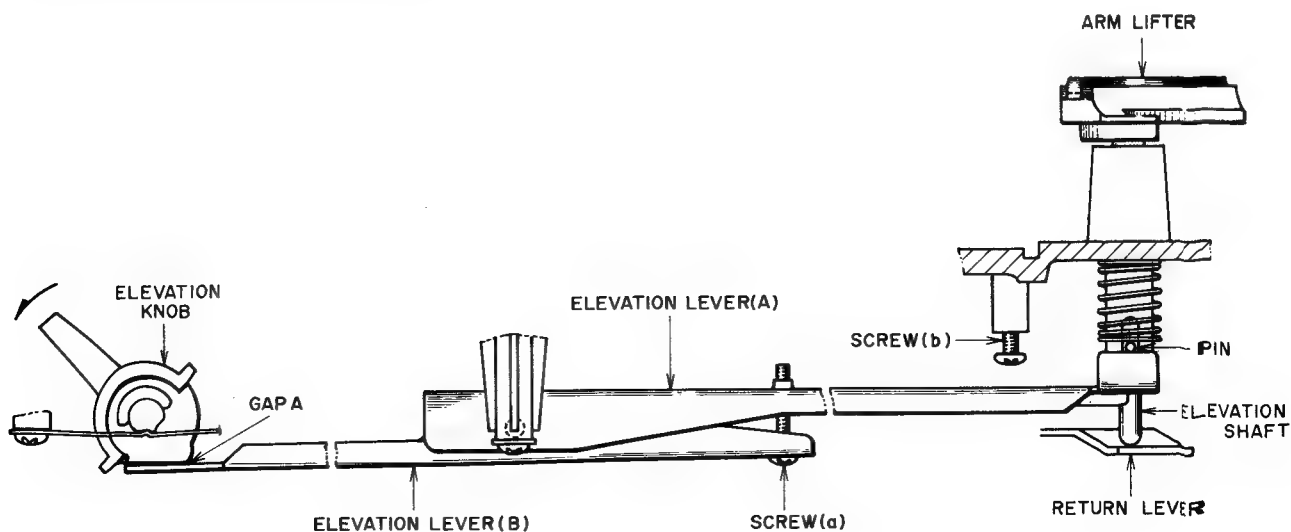

Fig. 9
- 1) Adjust with the elevation control and the arm lifter should be down. Confirm that the elevation shaft and lifter lever are touching. If not, press the arm lifter down with one finger until they do. Adjust screw (a) at exactly the point where the gap A between the elevation lever (B) and the elevation control disappears. (Refer to Fig. 9.)